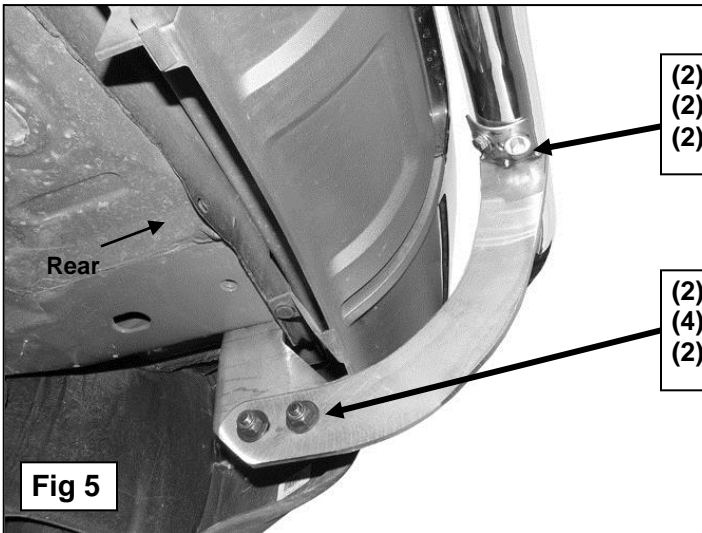

Fig 5
7. Carefully position the Rear Bumper Guard onto the Mounting Brackets and line up the threaded inserts with the cradles on the Mounting Brackets. If the holes do not line up properly, (2) Spacers have been provided to provide additional width adjustment. Insert (1) Spacer between each Frame Bracket and Mounting Bracket to move the Mounting Brackets inward,
(Figures 4A & 4B). Bolt the Rear Bumper Guard to the Mounting Brackets with the included (4) 8mm x 25mm Hex Bolts, (4) 8mm Lock Washers and (4) 8mm Flat Washers, **(Figure 5).**